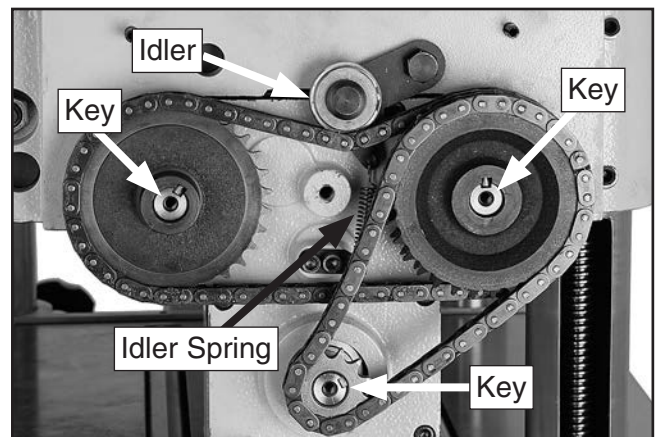

Figure 4. Example of sprockets and chains.
11. Remove cap screws and washers from three sprockets, shown in **Figure 4**, to expose sprocket keys.
12. Unhook idler spring shown in **Figure 4** and move idler up out of the way.
13. Rotate cutterhead so sprocket keys are in a generally upright position (see **Figure 4**). This prevents keys from falling out.